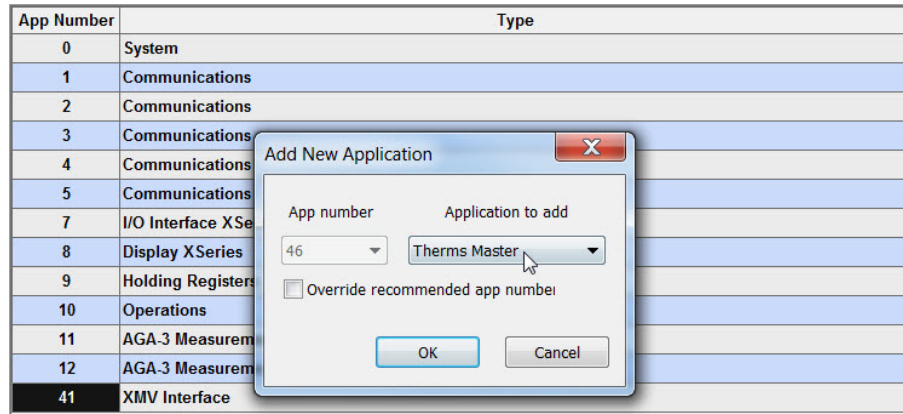

Figure 46. Add Therms Master application
- 4) Locate and choose the Therms Master application from the drop down list. If this is the first time the Therms application has been added it will automatically be assigned to *application number 46* (see Figure 46).